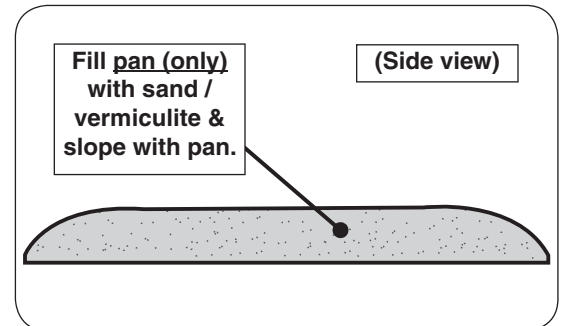

Fig. 19-2 Sand/vermiculite detail
2. **Slope the sand/vermiculite at the same angle as the burner pan.** This is important to ensure quiet lighting and even flame distribution. See Fig. 19-2.